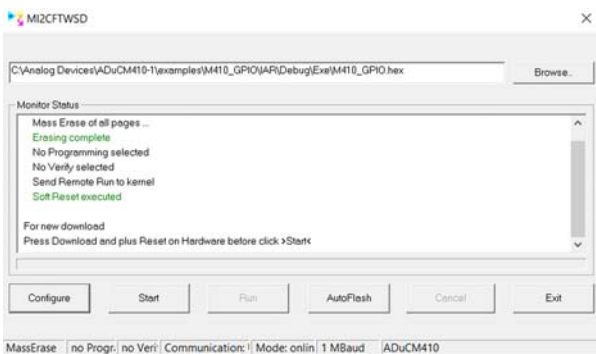

Figure 22. Complete Mass Erase
- After I²C connection is established. Click the **Run** button and it automatically flashes the device and either mass erases or downloads the program, depending on the configuration that the user selected in Step 4. Figure 22 shows an example of a complete mass erase on the device.